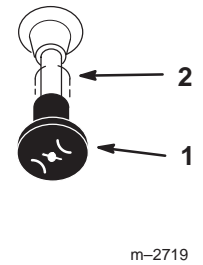

Figure 17
7. After the engine starts, move the choke to off (Fig. 17). If the engine stalls or hesitates, move the choke back to on for a few seconds. Then move the throttle lever to desired setting. Repeat this as required.